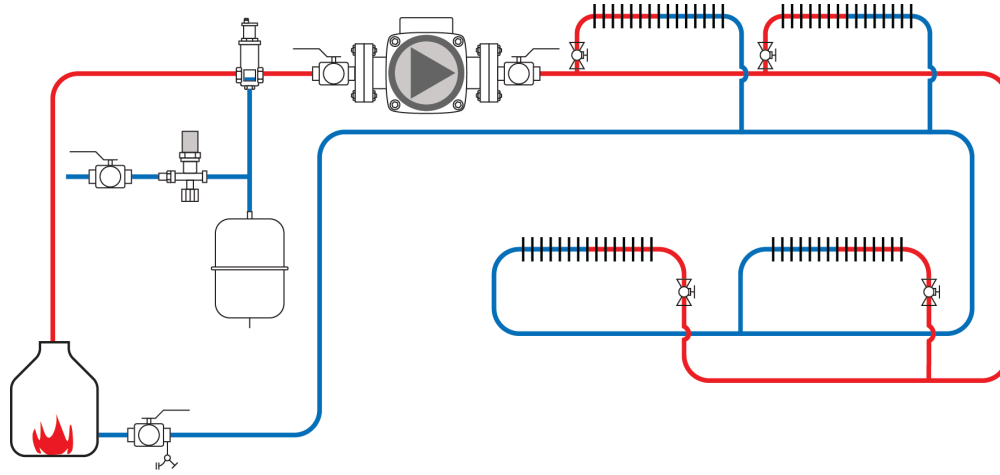

Figure 3
9. What system is shown in Figure 3?